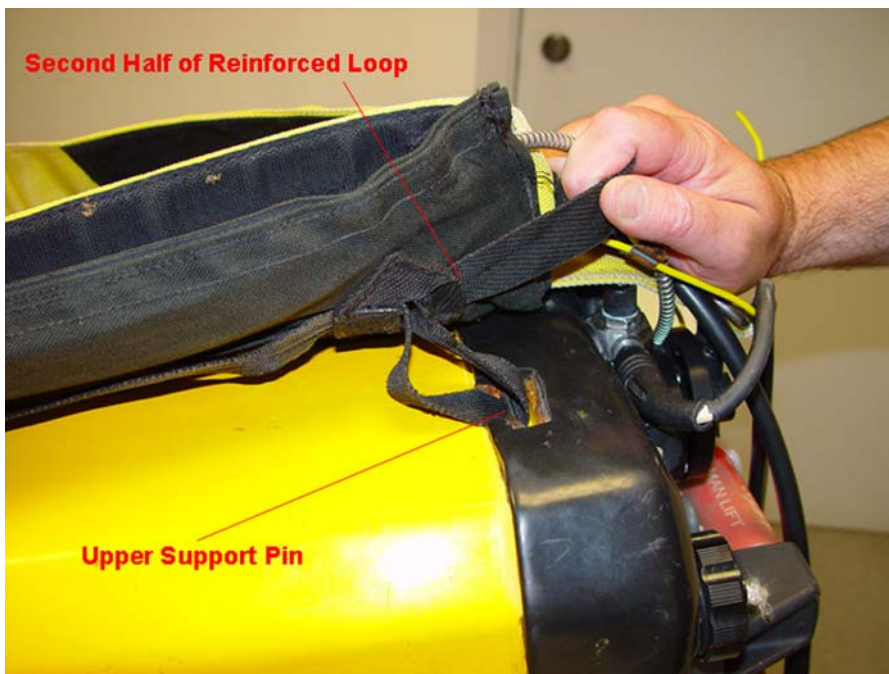

Fig 4.18
3. Take the webbing strap and pass it under the support pin at the top of the backpack, and then through the second half of the reinforced loop at the top of the harness as per Fig 4.18.